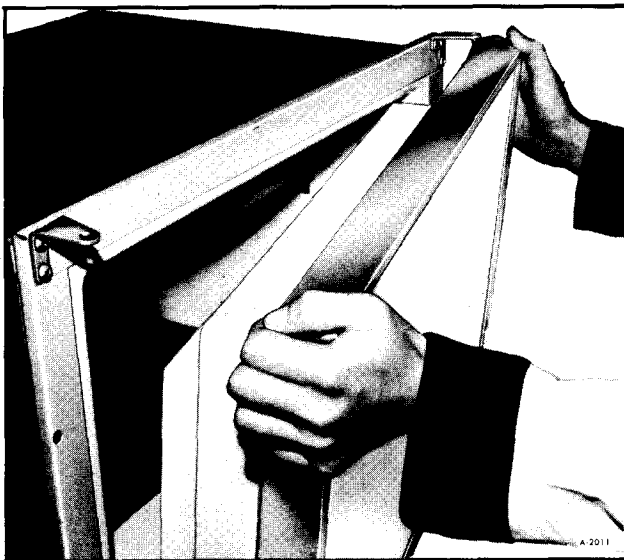

Figure 8—Removing Door
2. Tilt top of freezer door out and lift door off hinge (figure 8).